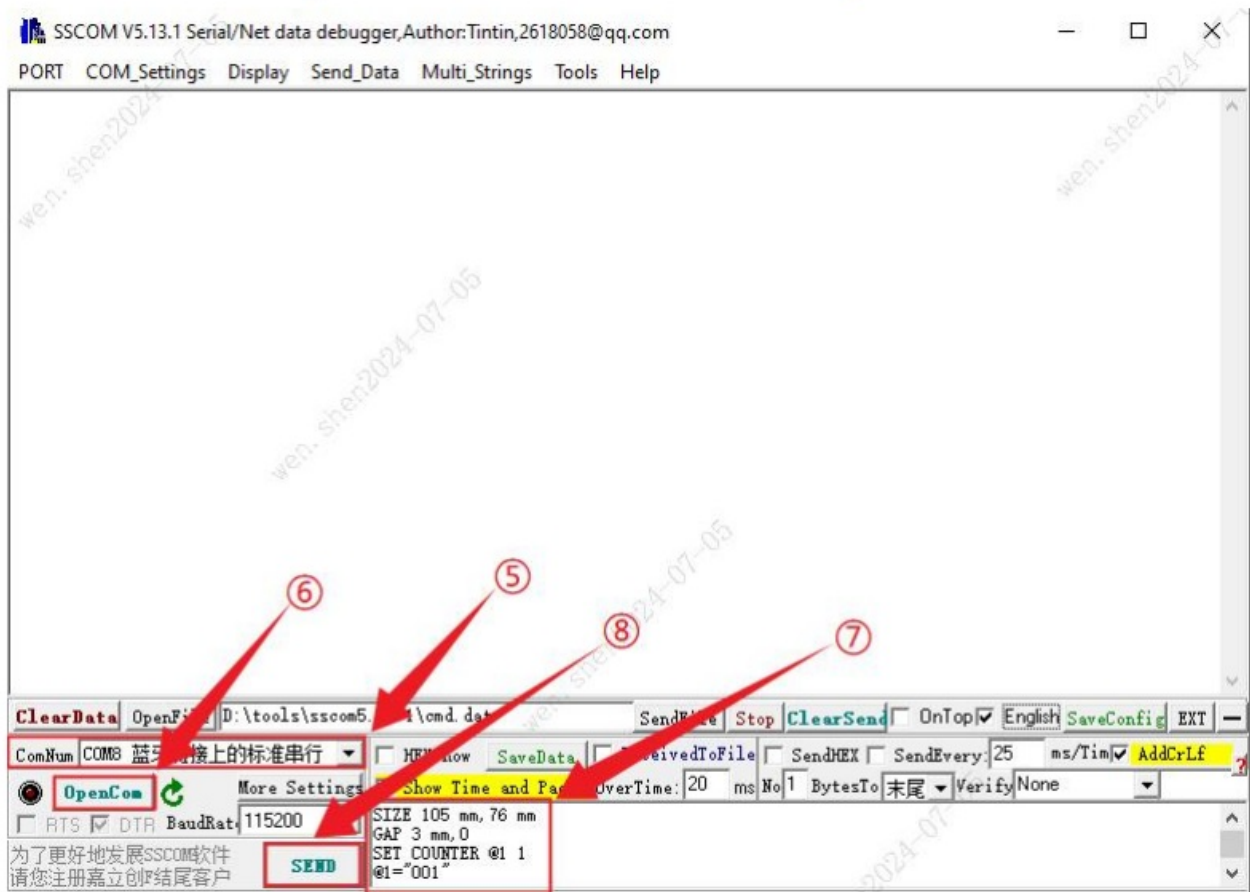

Fig.5
3. Once the Bluetooth serial port connection has been established, enter the print command in the data sending area and click the “Send” button to print. (Shown in Fig.5).